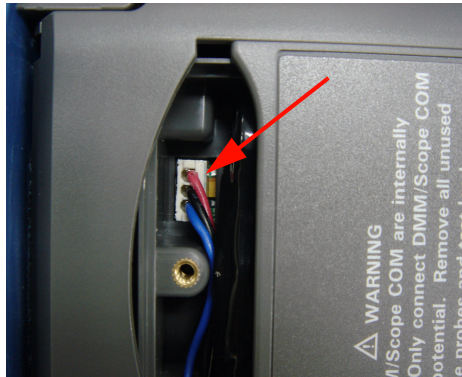

Figure 8-6 Unplug 2-wire connector with a tweezers.
- 2 Use tweezers to unplug the battery pin connector gently through the stand hole as shown in Figure 8-6.